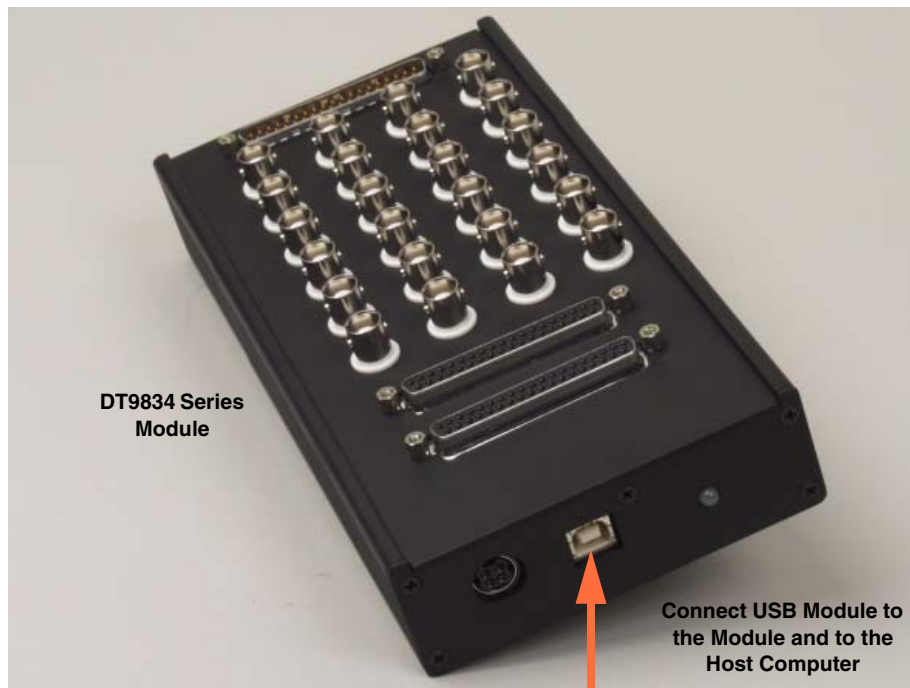

Figure 4: Attaching the Module to the Host Computer
3. Attach the other end of the USB cable to one of the USB ports on the host computer, as shown in Figure 4.